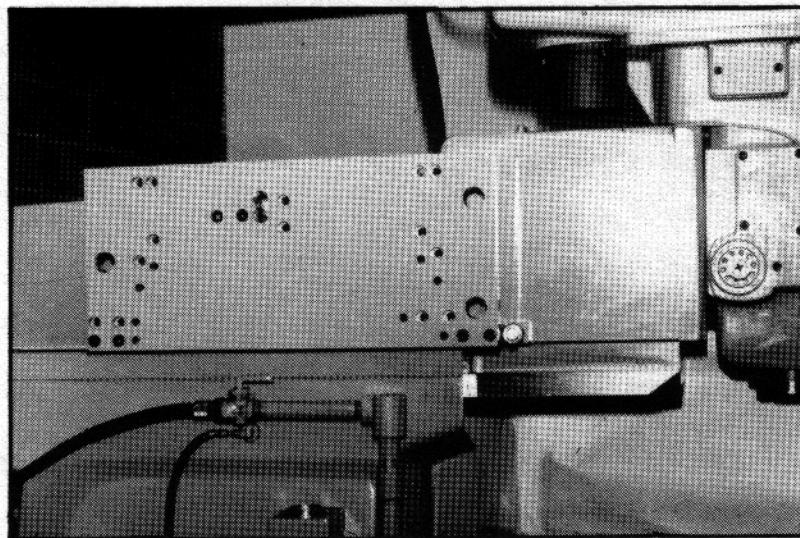

FIG. 2.13 ADAPTER PLATE INSTALLED ON MILL
11. Figure 2.13 shows the mounting adapter plate installed on the mill. The next step is to mount the ATC to the mounting adapter plate.